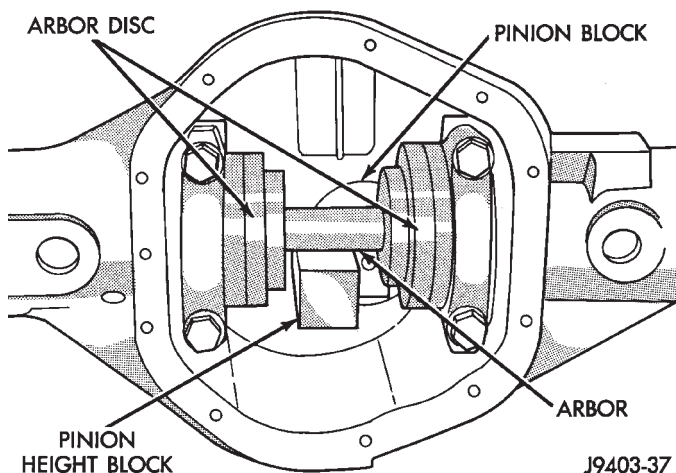

Fig. 74 Gauge Tools In Housing—Typical
(4) Place Arbor Disc 6732 on Arbor D-115-3 in position in axle housing side bearing cradles (Fig. 74). Install differential bearing caps on Arbor Discs and tighten cap bolts. Refer to the Torque Specifications in this section.